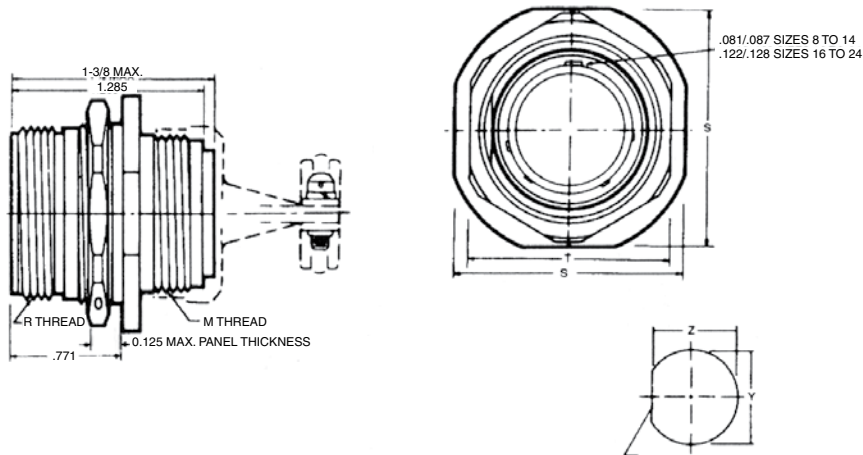

Figure 3-3. FC Style Connector
B. Style FC-Female Cord (see Figure 3-3)